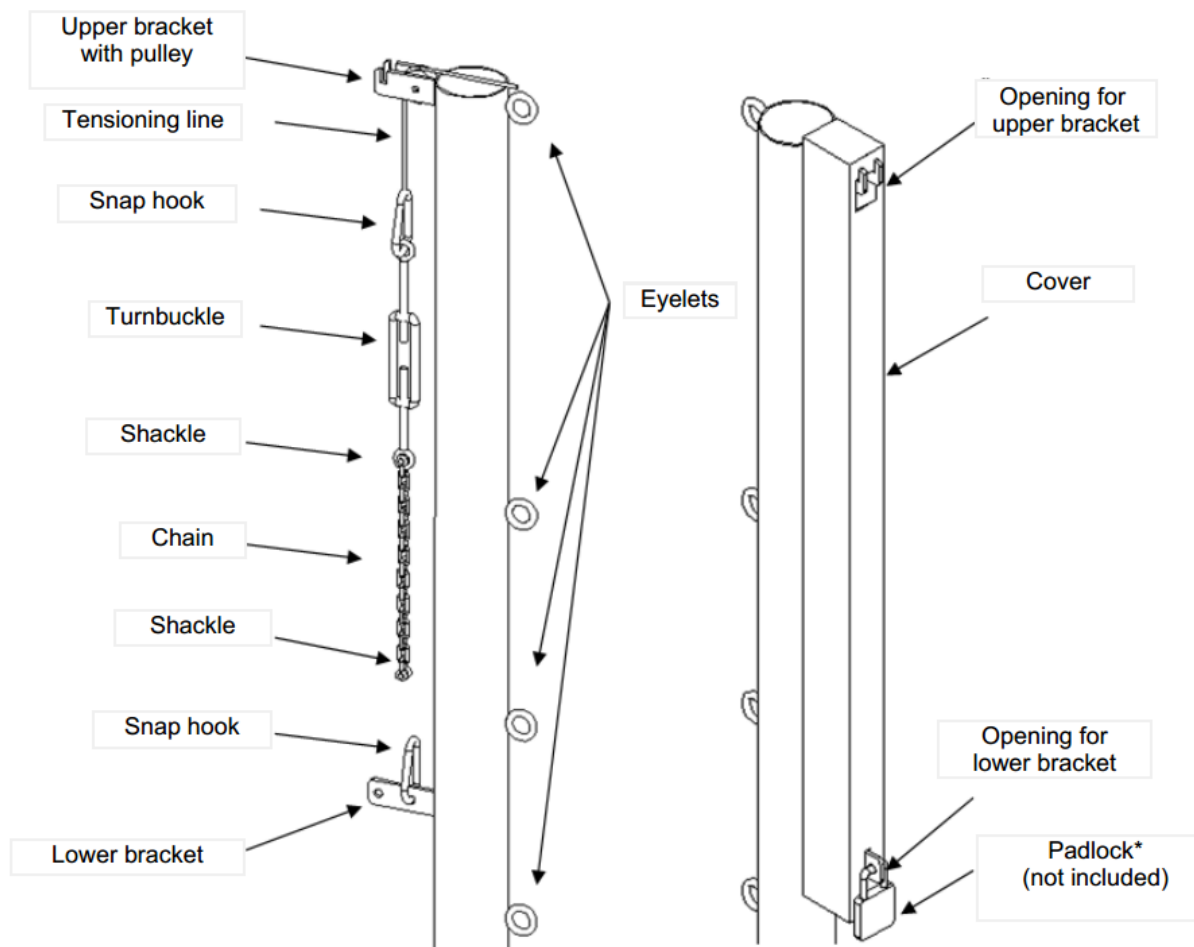

Figure 3: Tensioning device assembly
- Attach the net to the eyelets on the posts. Put the tensioning line for the net on top of the post and guide it through the pulley. Attach the tensioning line to the snap hook and then the snap hook to the turnbuckle (see figure 3).